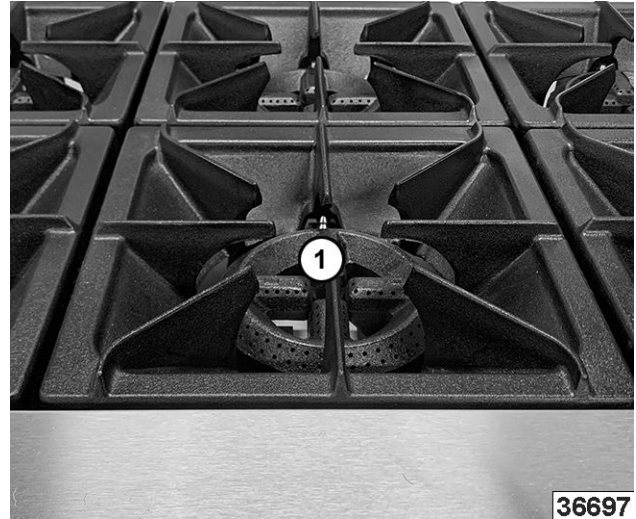

Fig. 24
- Remove burner grates (1, Fig. 24).